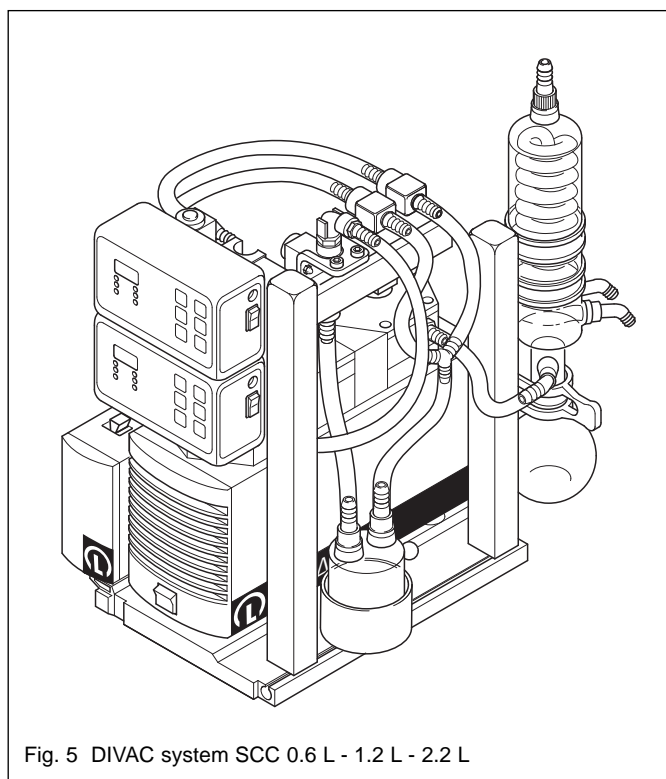

Fig. 5 DIVAC system SCC 0.6 L - 1.2 L - 2.2 L
- The mounting system ensures that the individual pump models seated on the baseplate can be exchanged without problems (see Fig. 5).